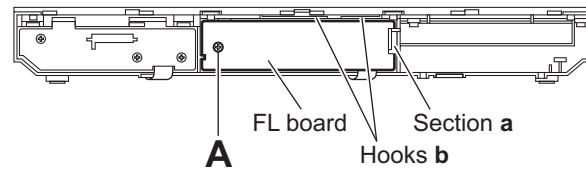

Fig.1
#### 3.2.1 Removing the FL board (See Fig.1)
#### 3.3.1 Removing the tray assembly (See Figs.1 to 3)
- (1) From the right side of the DVD mechanism assembly, push the slide cam and pull the tray assembly out of the DVD mechanism assembly in the direction of the arrow. (See Fig.1.)